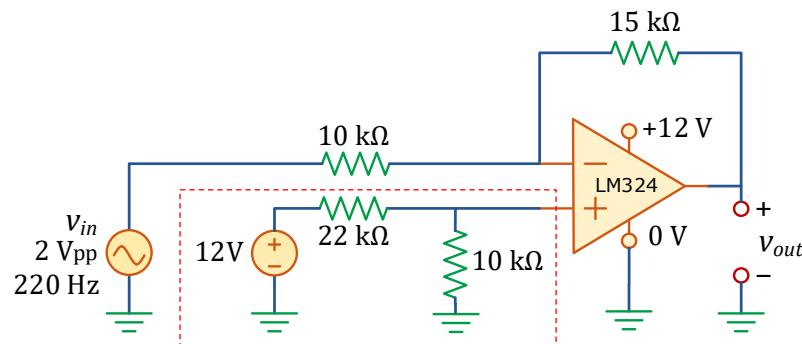

Figure 6.7: Biased inverting amplifier circuit with AC input and single asymmetrical voltage supply.
- B.3** Modify the previous circuit, as per Figure 6.7, to analyse the effect of biasing the Op Amp. Note that the same **+12 V** DC voltage supply energising the Op Amp is connected to the  $22\text{ k}\Omega$  resistor.